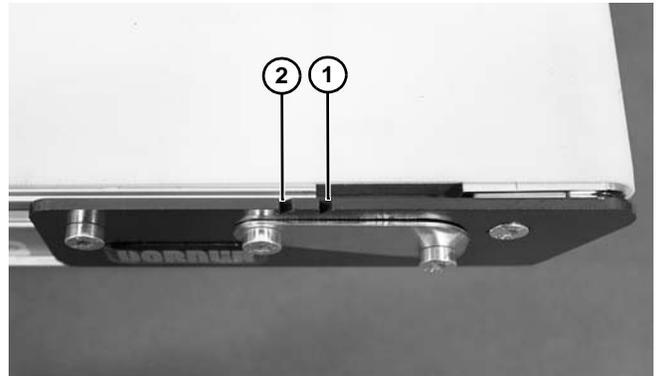

Figure 90
2. Adjust head plate assembly so end of conveyor frame aligns with or between the head plate tensioning marks (**Figure 90, item 1 & 2**). Replace belt if proper tensioning can not be obtained while aligning the end of the conveyor frame with or between the tensioning marks. See NOTE.